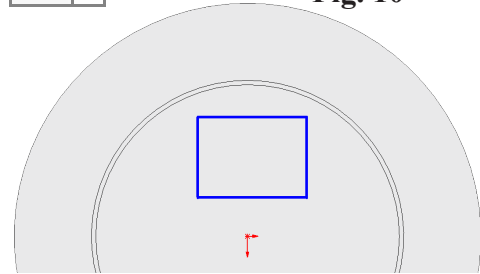

**Fig. 10**
Step 1. Click **Top Plane**  in the Feature Manager and click **Sketch**  on the context toolbar, **Fig. 10**.